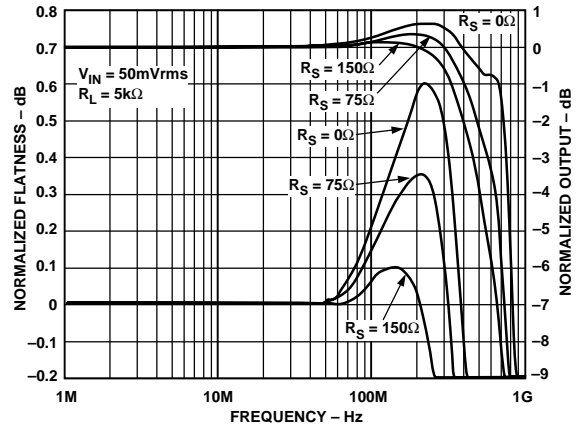

Figure 19. Frequency Response vs. Input Series Resistance
- 5A resistor ( $R_S$ ) placed in series with the multiplexer inputs serves to optimize 0.1 dB flatness, but is not required (see Figure 19.)
series resistors at the input or output. If better flatness response is desired, an input series resistance ( $R_S$ ) may be used (refer to Figure 19), although this will increase crosstalk. The dc gain of the AD8184 is almost independent of load for  $R_L > 10 \text{ k}\Omega$ . For heavier loads, the dc gain is approximately that of the voltage divider formed by the output impedance of the mux (typically  $28 \Omega$  and  $R_L$ ).